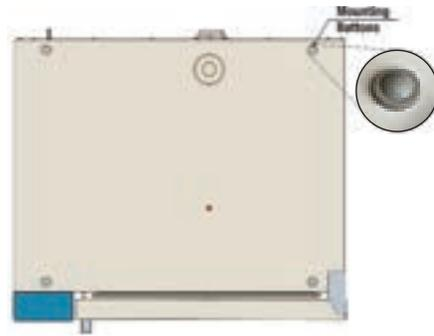
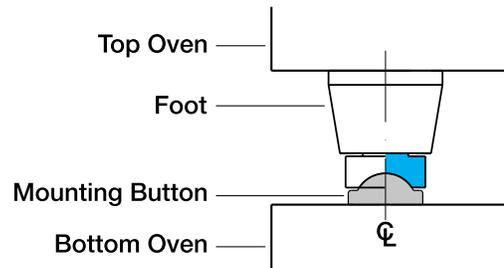

Figure 3.9. Stacking mounting buttons
Figure 3.10. Mounting button and oven foot cross-section.
Each oven has four (4) mounting buttons on its top as shown in Figure 3.9. The convex head of the button is designed to fit into the concave portion of the oven's feet, see Figures 3.10 and 3.11.